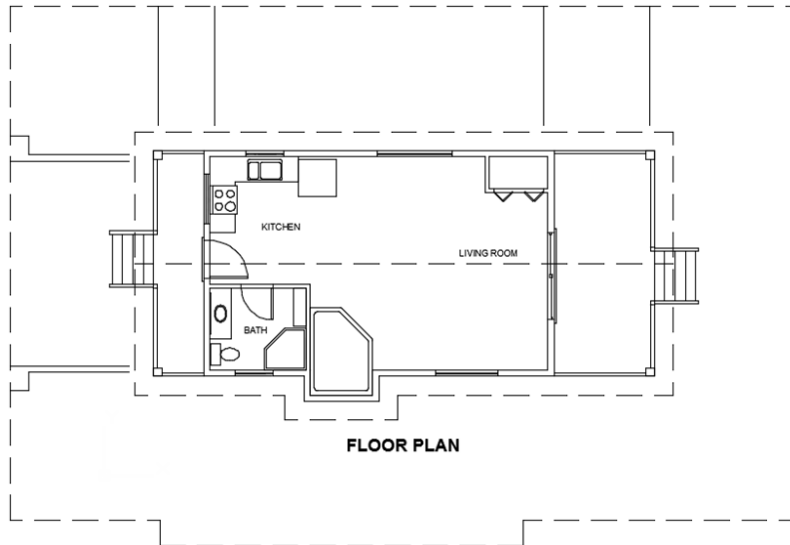

FIGURE 8.32: The cabin with the completed gridlines drawn and the offset roofline deleted
19. Erase the roofline offset you created in step 3, and then zoom out to a view that includes the floor plan and the gridlines (see Figure 8.32).